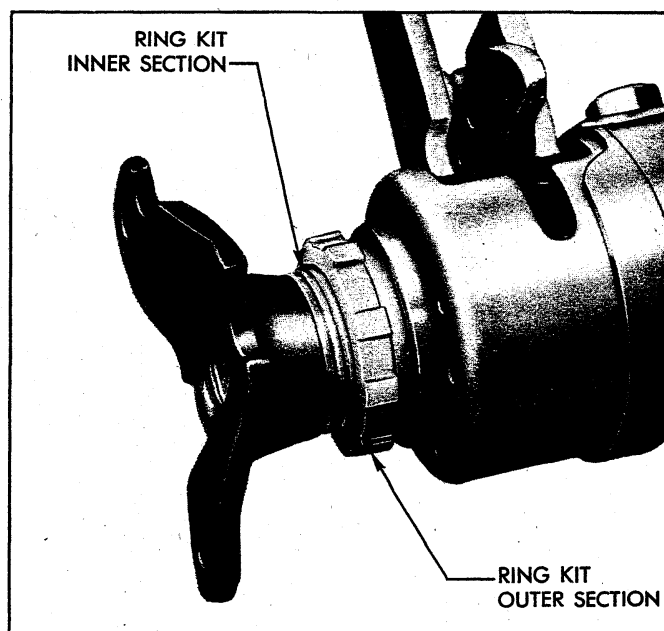

Fig. 36—Tolerance Ring Kit—Final Adjustment
21. Remove any remaining looseness from internal column stack-up by unscrewing inner tolerance kit ring section; then screw inner kit ring section back in 1/8 to 1/4 turn (fig. 36).